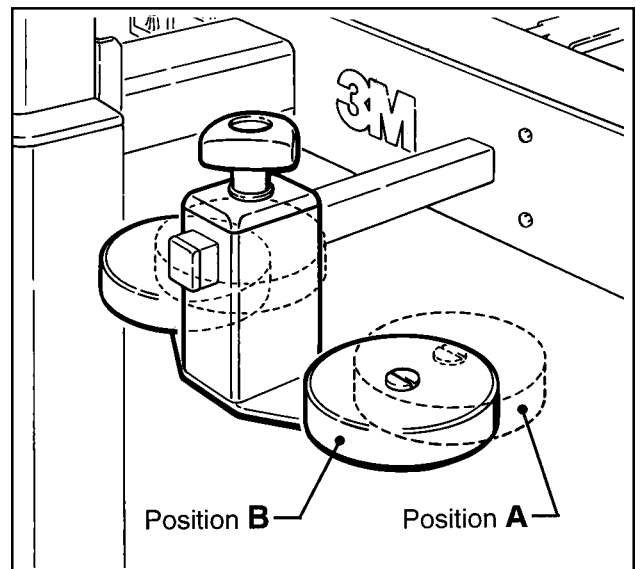

Figure 3-6 – Compression Rollers
4. TOP FLAP COMPRESSION ROLLERS (Figure 3-6)